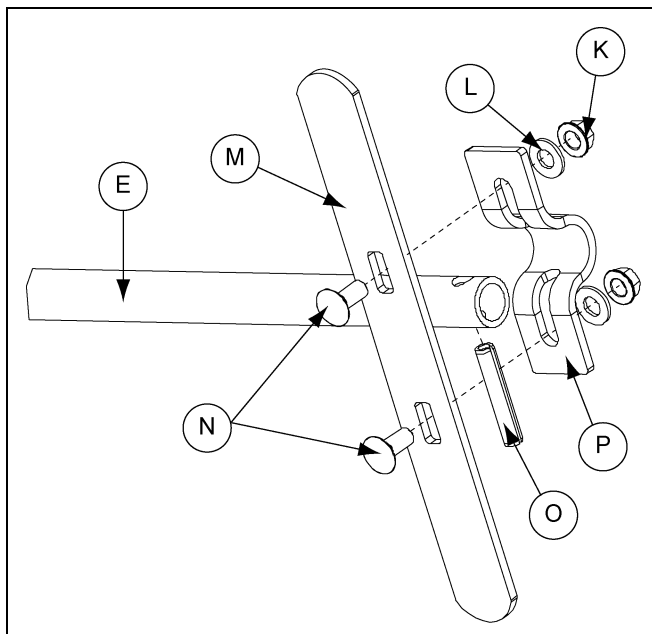

Figure 4AA
- Attach the 1/2" control rod clamp (P) to the control rod by inserting the 5/16" x 1-3/4" long roll pin (O) through the clamp and control rod.
- Fasten the clutch handle to the clamp (P) using two (2) 5/16" x 3/4" carriage bolts (N), flat washers (L) and serrated flange nuts (K). Install the nuts so that they secure the roll pin (O) in place. (See Figure 4AA.)